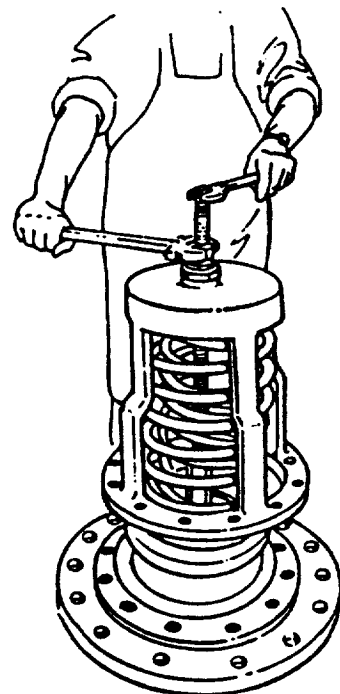

FIGURE 34
- f. Remove the 4 spring retainer cap screws (4) and back off the nut on the threaded rod until the spring (7) (check valve; inner and outer springs – main valve) is fully extended. Prevent rod from turning with wrench placed on flats (Fig. 34).